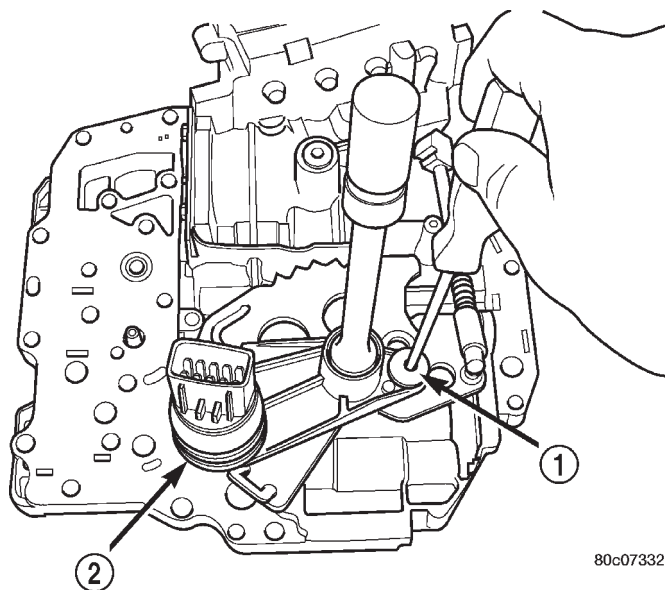

Fig. 86 Manual Shaft Retaining Screw
- (4) Remove manual shaft/TRS retaining screw (Fig. 86).
- (5) Slide TRS off of manual valve shaft.
(2) Install the TRS/manual shaft retaining screw and torque to 5 N·m (45 in. lbs.) torque (Fig. 86).